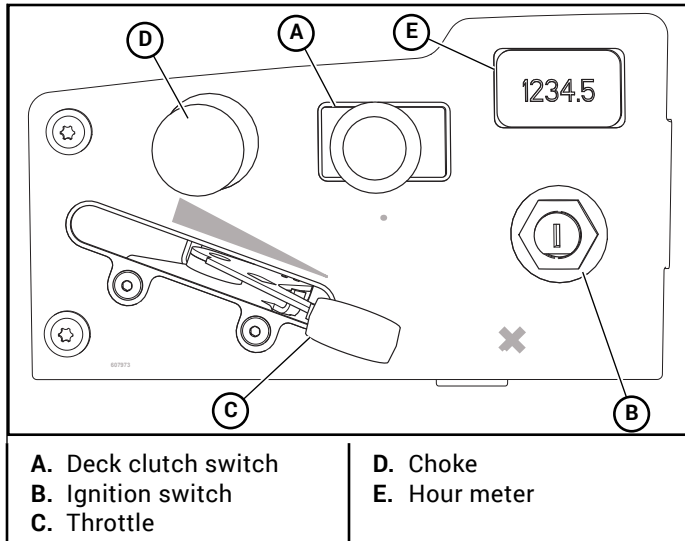

Figure 3-1
- A. **Deck clutch switch (Figure 3-1)** – this switch engages the deck. Pull the switch up to engage and push the switch down to disengage the clutch.
- B. **Ignition switch (Figure 3-1)** – a three position switch: “OFF”, “RUN”, and “START”. With the key inserted, rotate it clockwise to the “START” position; release the key when the engine starts, and the switch will automatically return to the “RUN” position
- C. **Throttle control (Figure 3-1)** – a cable is linked to the engine throttle for controlling engine speed. Move the lever forward to increase engine rpm, move the lever rearward to decrease engine rpm.
- D. **Choke control (Figure 3-1)** – a cable is linked to manually operate the engine choke. When the lever is in the down position, the choke is in the “OFF” (run) position. When the knob is pulled up, the choke is in the “ON” (start) position. **Do not** operate the machine in the “ON” (start) position.
- E. **Electronic hour meter (Figure 3-1)** – registers 1/10 hour increments up to 9,999.9 total hours. Connected to the ignition switch, the meter records the accumulative time while the ignition key is switched to the RUN position.